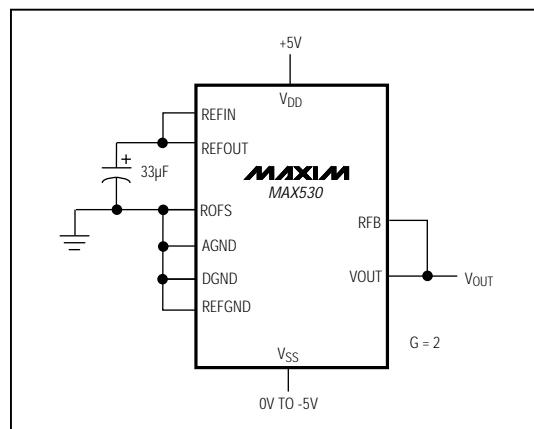

Figure 10. Unipolar Configuration (0V to +4.096V Output)
A 0V to 4.096V unipolar output range is set up by connecting ROFS to AGND and RFB to VOUT (Figure 10). Table 4 shows the DAC-latch contents vs. VOUT. The MAX530 operates from either single or dual supplies in this mode. In this range,  $1\text{LSB} = (2)(\text{REFIN})(2^{-12}) = (\text{REFIN})(2^{-11})$ .